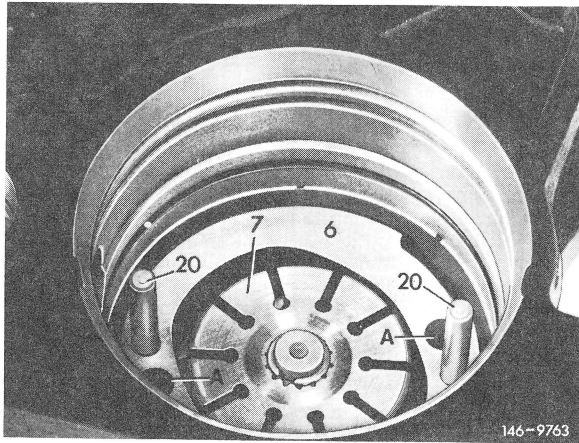

Fig. 4
4 Place cam ring (6) with cast-in directional arrow upwards on cyl. pins (20). Watch-out for correct position of cam ring (Fig. 4).